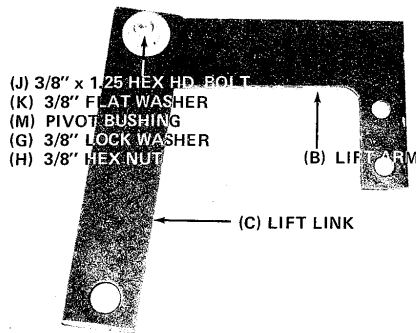

FIGURE 9
4. Assemble lift arm (B) to lift link (C) using one 3/8" x 1.25" hex head bolt (J), 3/8" flat washer (K), pivot bushing (M), 3/8" lock washer (G) and 3/8" hex nut (H) as shown in figure 9. See figures 6 and 9.